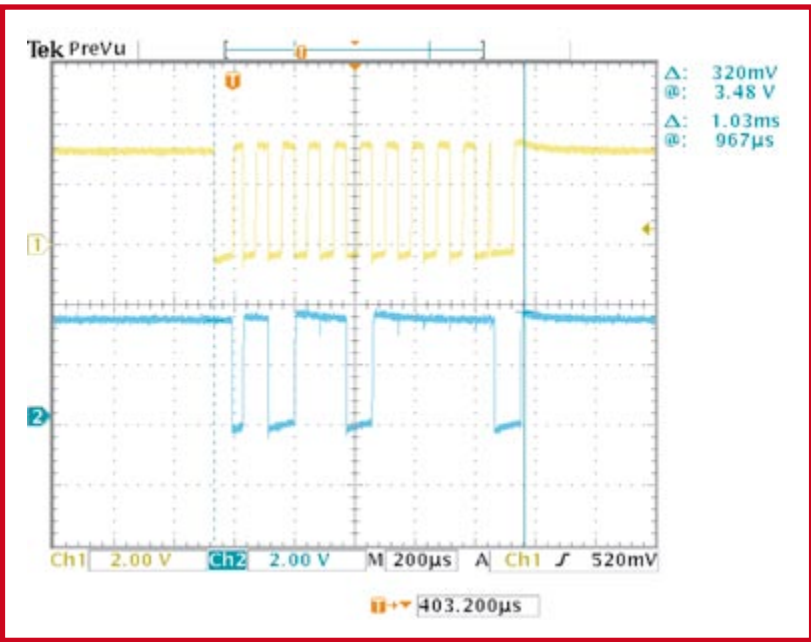

Figure 2. A data block transmitted from the host to the device.
eight data bits. These data bits are also sent starting with the least significant bit. The next bit is a parity bit (odd). Finally, the host sends a stop bit (1), but the communication session is not yet complete. The final action is that the device sends an 0 as an acknowledgement (ACK) if the data was received correctly (see **Figure 2**).